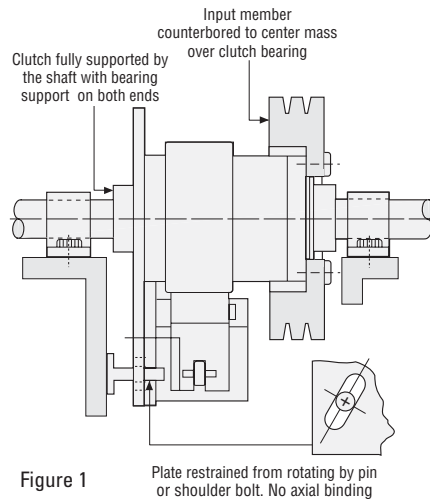
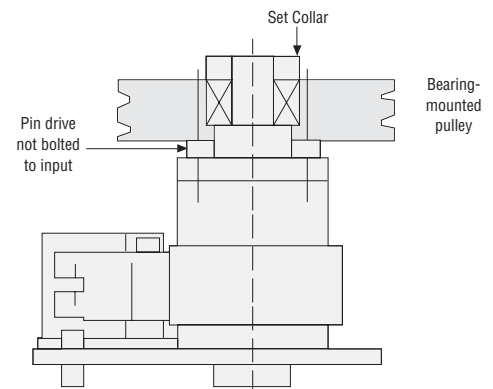

Figure 1
Figure 2
All Genuine Wrap Spring clutch products are designed for parallel shaft applications where they are fully supported by the shaft on which they are mounted. In the case of wrap spring clutch/brakes (CB) the through shaft is always the output. Connecting the parallel shaft to the CB input can be accomplished by use of a belt, chain or gear drive. CB models must be mounted with the shaft(s) in a horizontal position (Figure 1). If vertical mounting is required, see Figure 2.
See Figure 2 note.
Figure 1 - Shows an ideal CB mounting. The unit is locked to the output shaft with a key and set screws. The mounting plate is restrained from rotating with a pin, but is not restrained axially, reducing the load on the CBs internal plate bearing.
Figure 2 - When applying a wrap spring vertically, the mating drive member (pulley, sprocket, or sheave) must be bearing-supported as shown in Figure 2. This is necessary to eliminate the axial loading that will occur from the weight of the mating drive member (pulley, sprocket or sheave).
Illustrate how proper support can be provided. Input members are generally face-mounted to the input hub of the unit as shown on Figure 1. This is facilitated by drilled and tapped holes provided in the free hub flange.